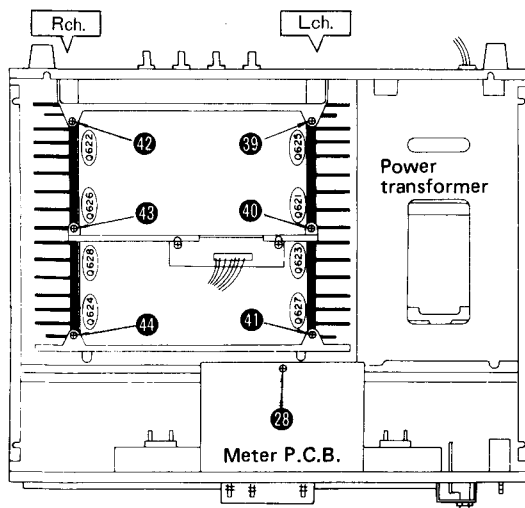

Fig. 5
3. Remove the meter circuit board setscrew ㉒ (Fig. 5).
4. Remove the heat sink setscrews (39 ~ 41) or (42 ~ 44) on the L or R channel as in fig. 5.